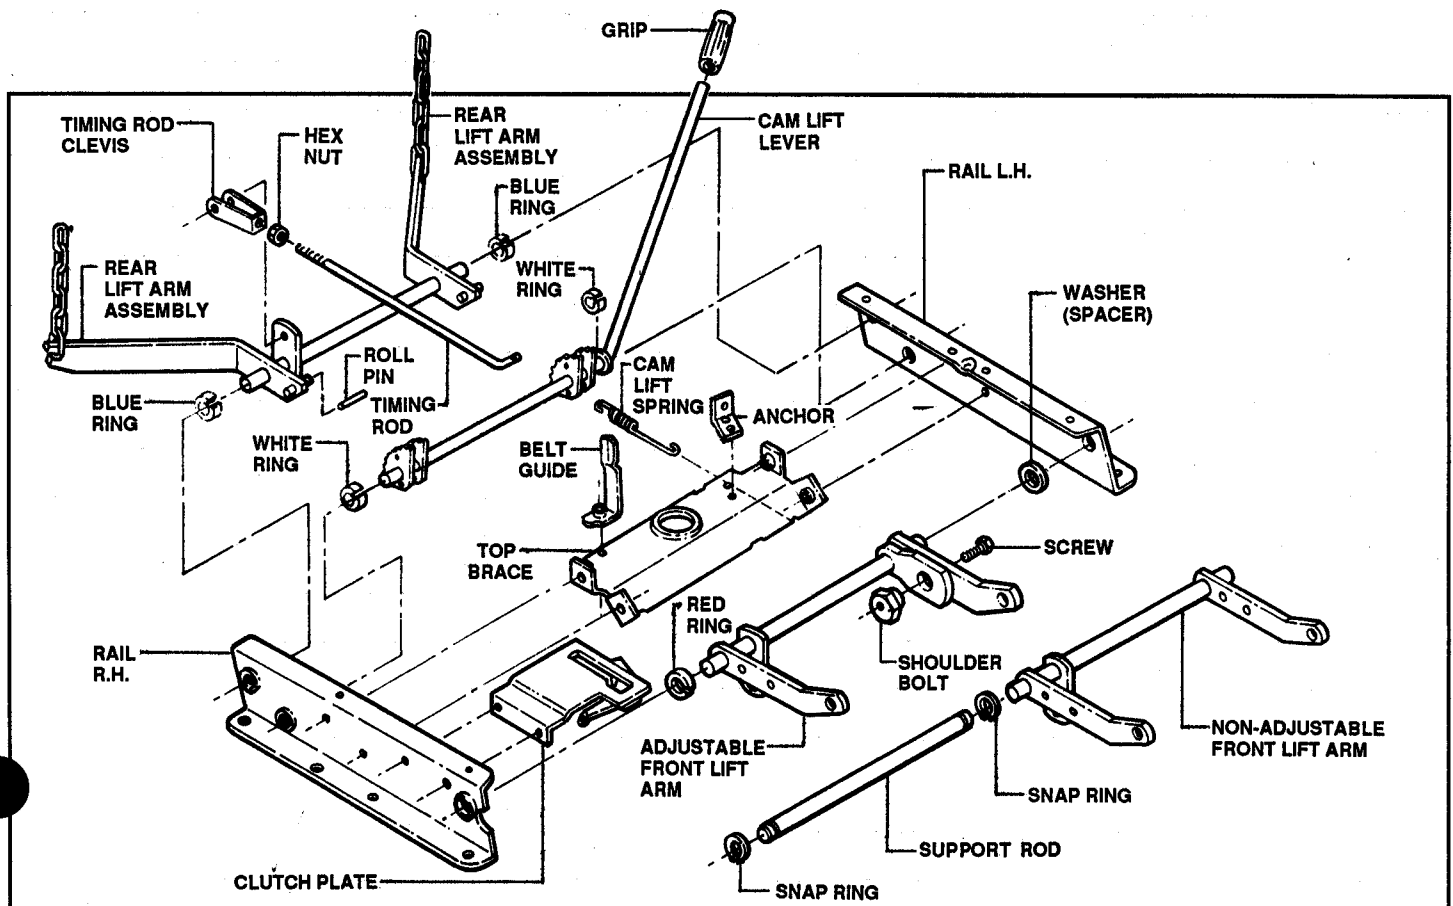

FIGURE 3.22
2. Pry (1) nylon spacer from front lift arm using (2) screwdrivers.
5. Reverse procedure to reinstall front lift arm. See Figure 3.22.
1. Disconnect lift handle spring from cotter pin in the cams of the lever. See Figure 3.22.